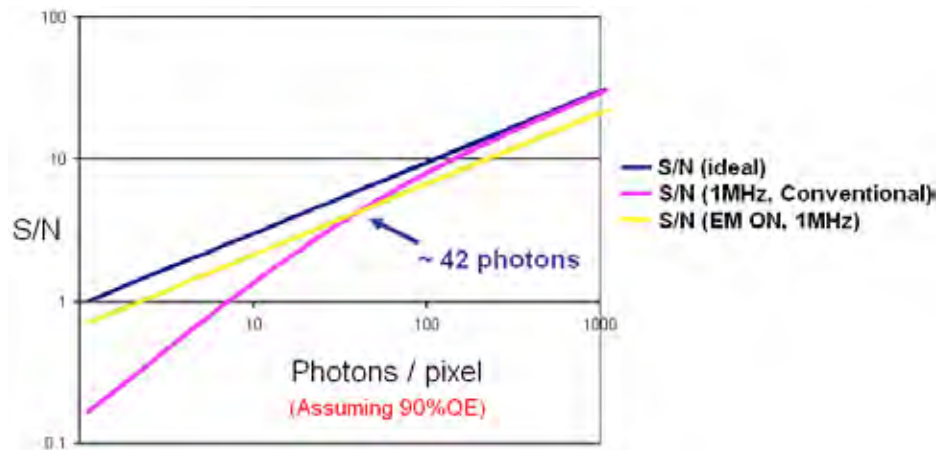

Figure 10: EM Gain ON vs. Conventional Amplifier signal to noise plots for back-illuminated iXon Ultra EMCCDs at 1MHz readout speed
**Figure 10** below, shows S/N plots derived from the specifications of the back-illuminated iXon Ultra EMCCDs at 1MHz (slower frame rate operation) read out either with EM Gain ON or, alternatively, through the conventional amplifier (i.e. standard CCD operation). Again, this plot assumes a photon wavelength at which the QE of the sensor is 90%. Specifically this figure applies to models where the user has the choice of either EMCCD or conventional amplifiers.